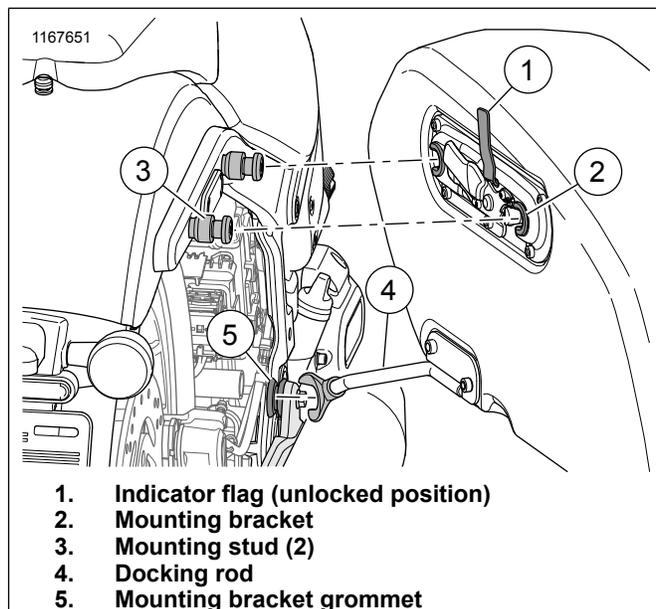

Figure 4. Saddlebag Mounting Bracket
2. Refer to Figure 4. Slide saddlebag rearward to disengage the saddlebag docking rod (4) from the mounting bracket grommet (5).